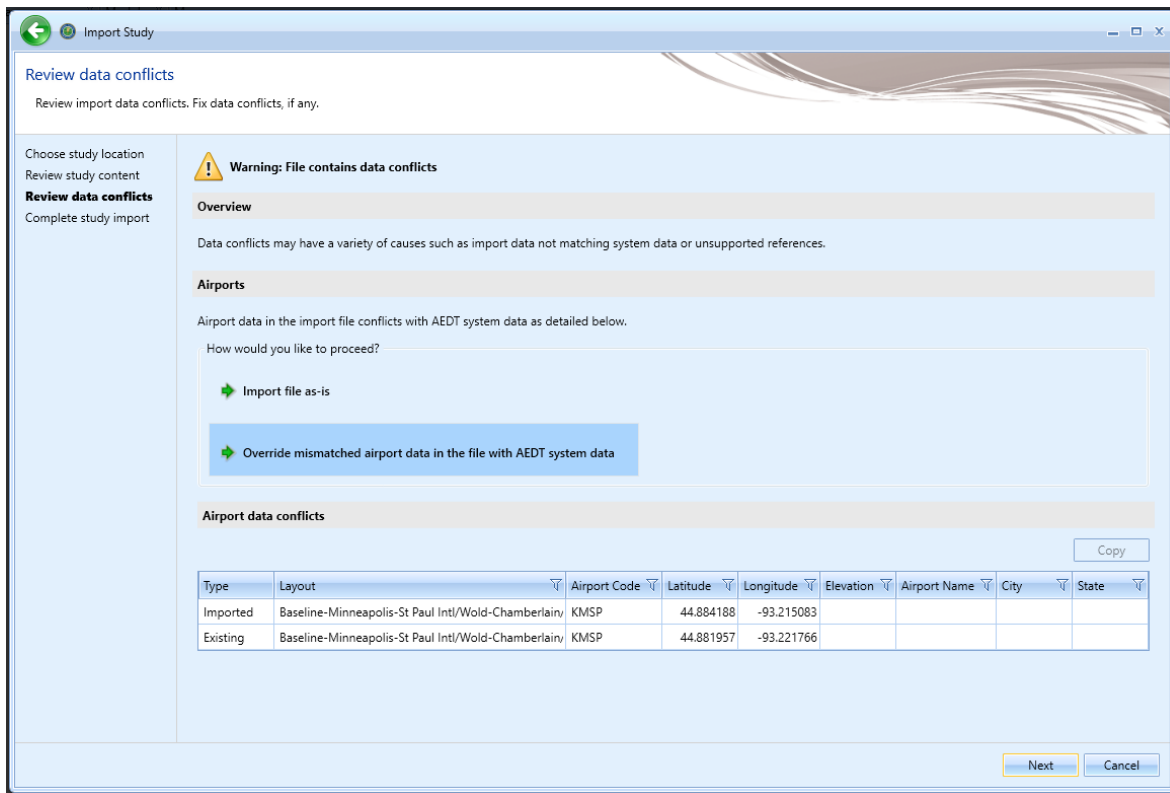

Figure 47. Review data conflicts
5. The *Review data conflicts* step displays any conflicts between study airport data and AEDT airport data. (Figure 47) (Note: Latitude/Longitude/Altitude mismatches between EDMS and AEDT airport location data and EDMS airport codes that are not in the AEDT database are identified)